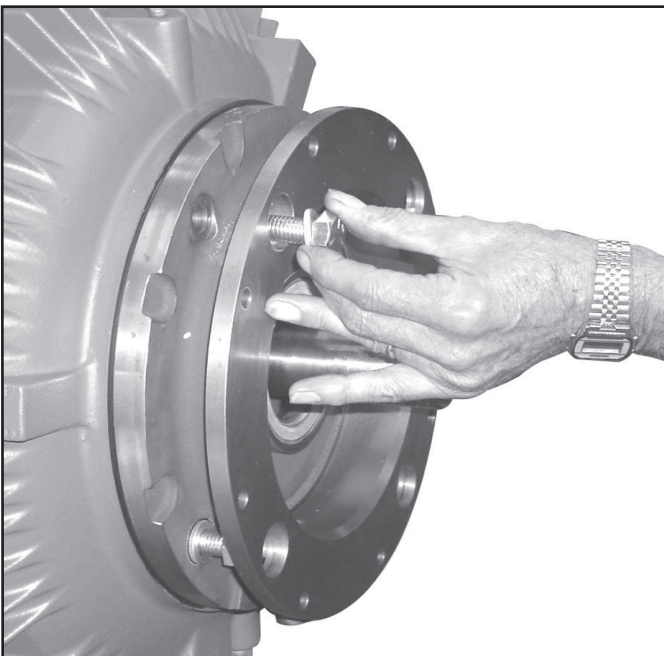

Figure 3 - Installing Housing (#8) to Drive Motor
3. Thread the (4) Hex Hd. Cap Screws (#150) and Lockwashers (#128) into the tapped holes on the motor flange face (See Figure 3). Torque 1/2"-13 hex hd. cap screws to 60 lb. ft. or 5/8"-11 hex hd. cap screws to **120 lb. ft.**